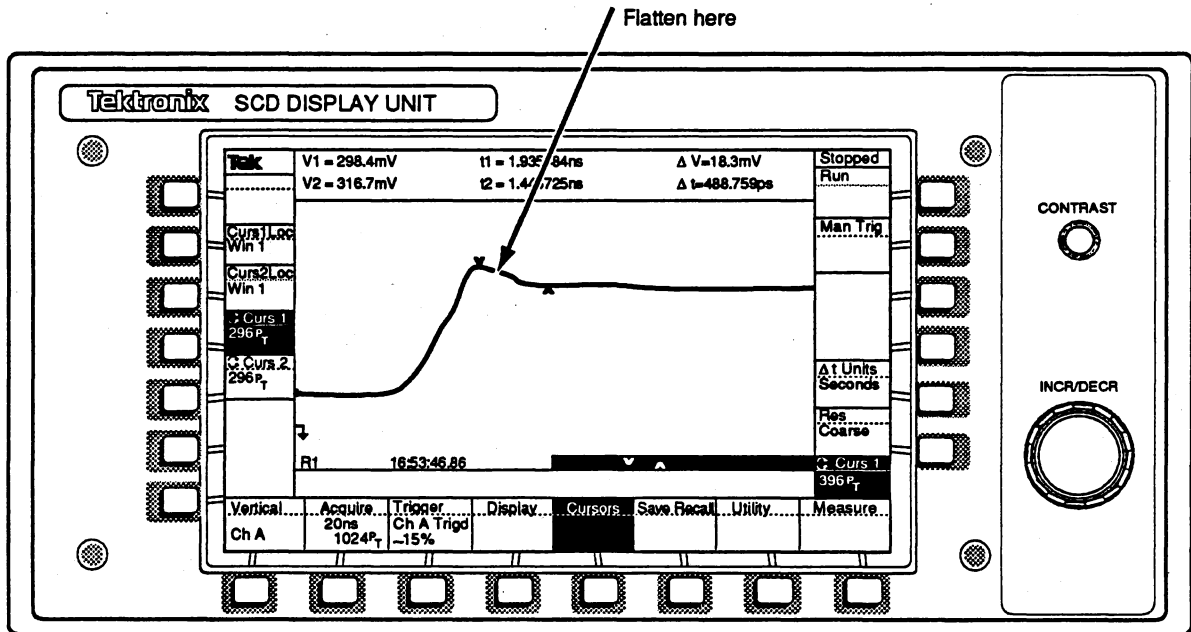

Figure 5-23: CRT Termination Compensation
6. Look at the first 4 to 5 ns of the step response on the SCD display. Adjust the pot (A22 CRT Termination) for the smallest aberrations and flattest top in the first 4 ns of the pulse as shown in Figure 5-23.